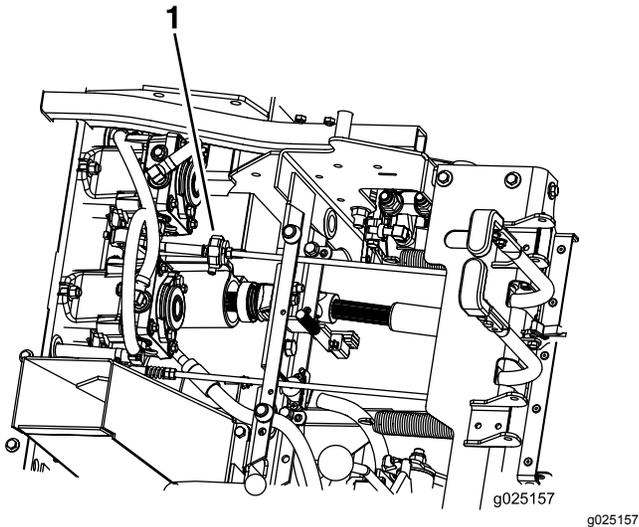

Figure 50
6. Check and ensure that the machine does not creep when in neutral with the parking brakes disengaged (Figure 50).